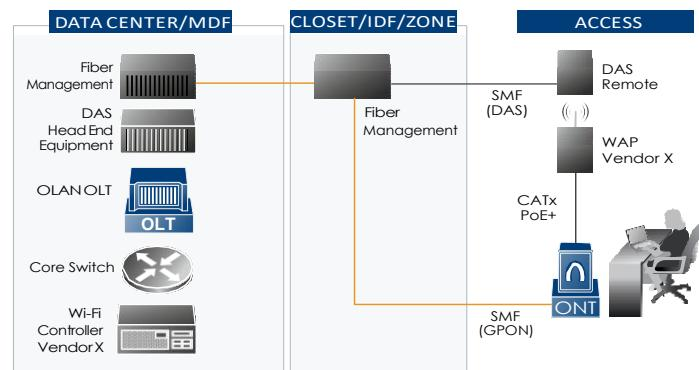

Figure 7: DAS over fiber with synergies with Optical LAN architecture
There are also synergies between distributed antenna systems (DAS) and Passive Optical LAN. To be clear, the DAS traffic does NOT traverse the Passive Optical LAN equipment, but it can leverage the same fiber infrastructure that Passive Optical LAN utilizes [Figure 7]. Alone, DAS has a challenging return-on-investment analysis—it is relatively expensive; it only does one thing; and the end customers think they should not have to pay for it. Passive Optical LAN has an excellent ROI that can justify the deployment of DAS over existing spare fibers. In the near term, DAS and Passive Optical LAN can gain additional synergies with combined powering, power backup and fiber management between them. In the future as both DAS and Passive Optical LAN technologies advance, it can be expected that the Passive Optical LAN ONT can integrate both DAS antenna and Wi-Fi WAP hardware.
**Smart/Intelligent Buildings** — A Building Management System (BMS) and Building Automation System (BAS) are extremely important for any new high-performance buildings and a key to reducing operating costs. Building monitoring devices and system reporting and analysis tools require IP/Ethernet connectivity. In recent years, the Passive Optical LAN has taken on the responsibility to integrate these functions. Since the majority of BMS/BAS monitoring devices today are IP/Ethernet based, the connectivity into the existing (or new) Passive Optical LAN is seamless [Figure 7]. The Passive Optical LAN can ensure adequate bandwidth, security, authentication and quality of service specific to each monitoring and management device.